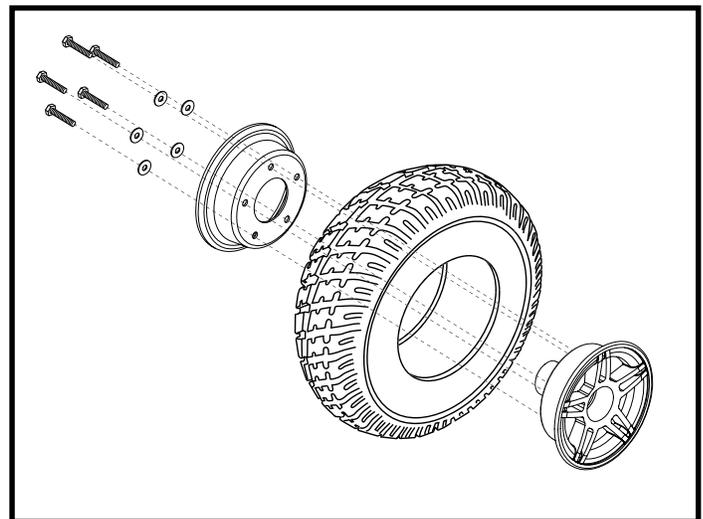

Figure 22. Flash Drive Wheel
6. Remove the screws and washers that fasten the two rim halves together. See figure 22.